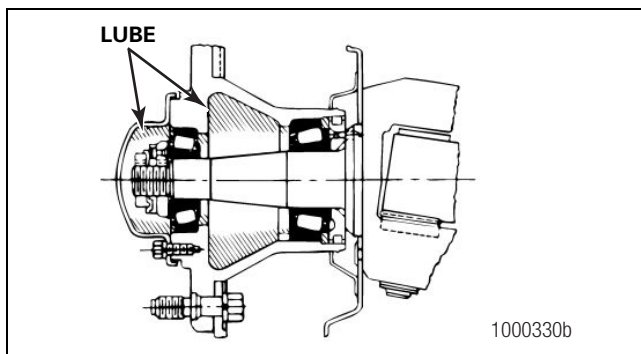

Figure 6.36
4. Force the specified lubricant from the large end of the cones into the cavities between the rollers and cage. Pack the hub between the bearing cups with lubricant to the level of the smallest diameter of the cups. Figure 6.36.